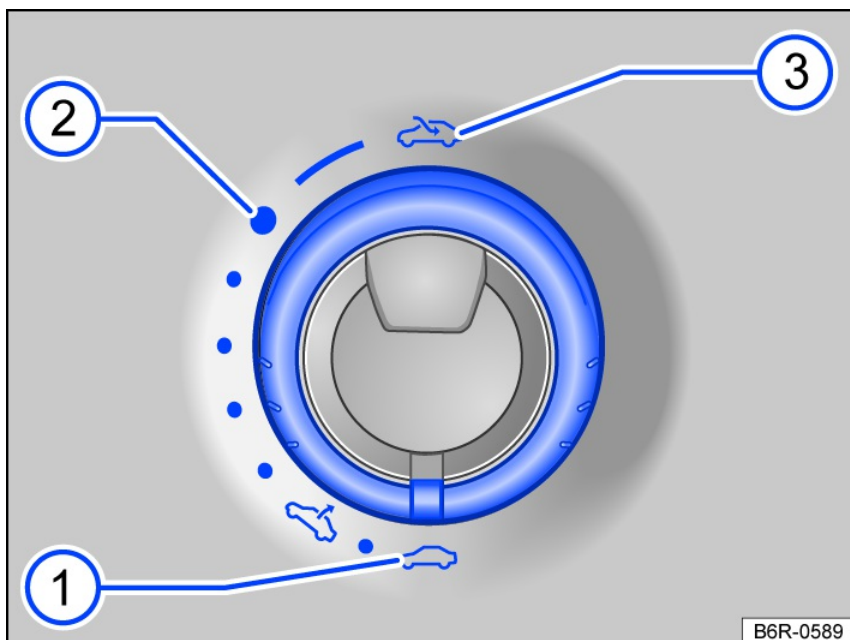

Fig. 55 In the headliner: turning the switch to open and close.
1. Turn the switch to position fig. 55 and press and hold until the power sunroof has reached the preferred position.
1. Turn the switch to position fig. 55.
1. Turn the switch in position fig. 55 to ①.
To raise the power sunroof, the dial must be in the basic position fig. 55.